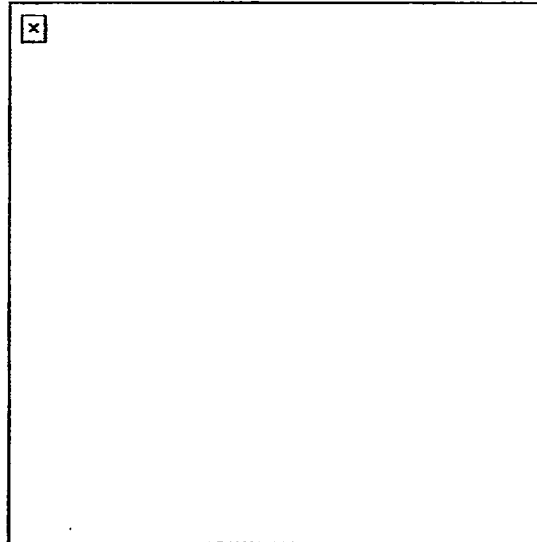

Figure 191-381-1370-8
- (1) Punch the internee in the groin.
- (2) Punch the internee in the solar plexus.
- (3) Strike the edge of your hand to the kidney (Figure 191-381-1370-8).